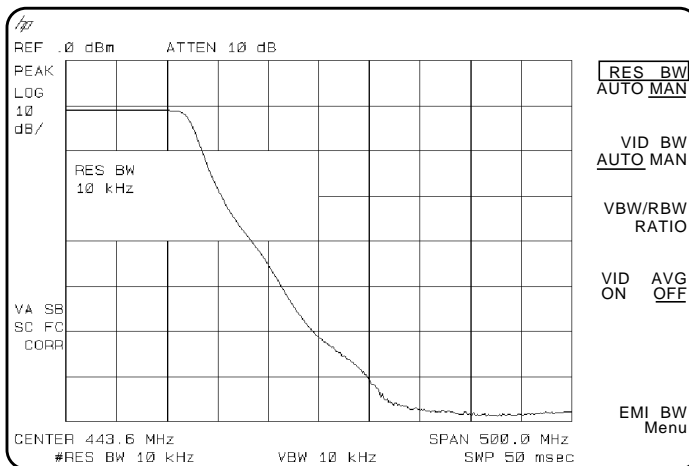

Figure 55 Decrease the Resolution Bandwidth to Improve Sensitivity
- Decrease the resolution bandwidth to increase sensitivity, and narrow the video bandwidth to smooth the noise. In Figure 55, the resolution bandwidth has been decreased to 10 kHz.